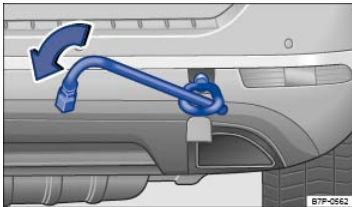

Fig. 226 In right rear bumper: Screwing in towing eye.
- Screw the towing eye **counterclockwise** into the threaded hole as far as it will go ⇒ Fig. 226 (arrow) ⇒ . Use the lug wrench to turn and tighten the towing eye.